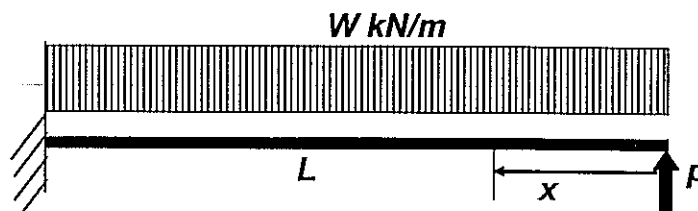

Figure Q8- Loading system
8. A beam fixed at one end and simply supported at the other end carries an uniformly distributed load as shown in Figure Q8